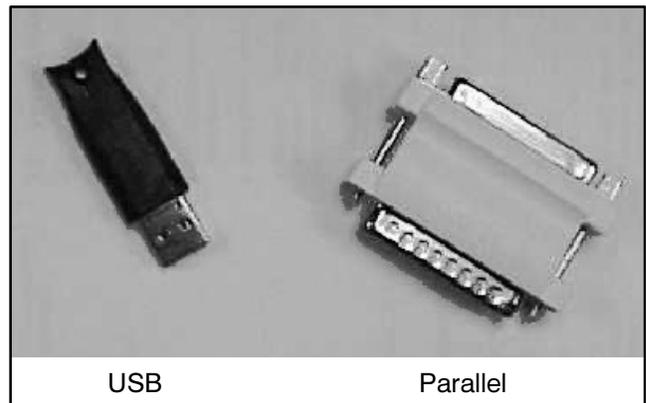
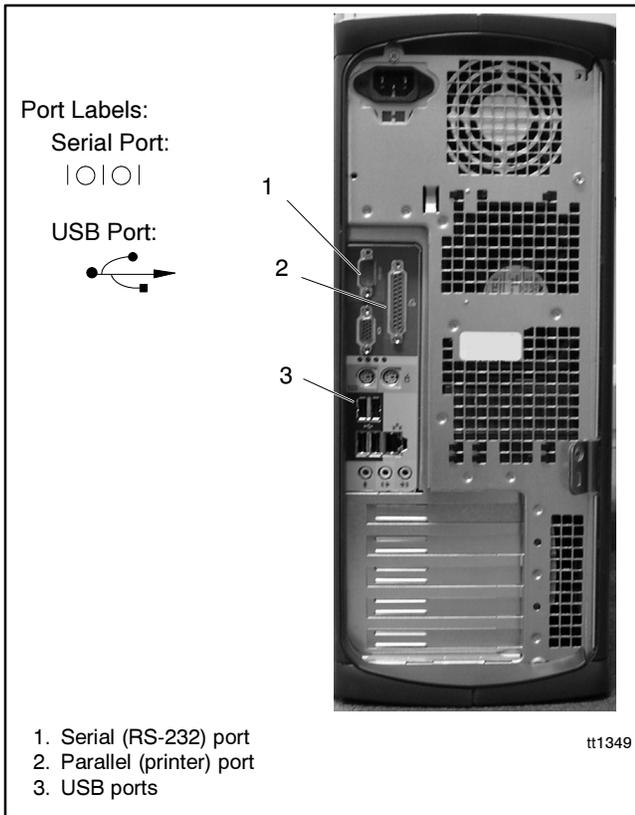

Figure 3 Hardware Keys (Dongles)
Figure 4 Typical Computer Ports and Labels
3.2.2 Install the hardware key into the USB port or the parallel (printer) port. Figure 3 shows the hardware keys. Figure 4 shows typical computer ports and the labels used for serial and USB ports.